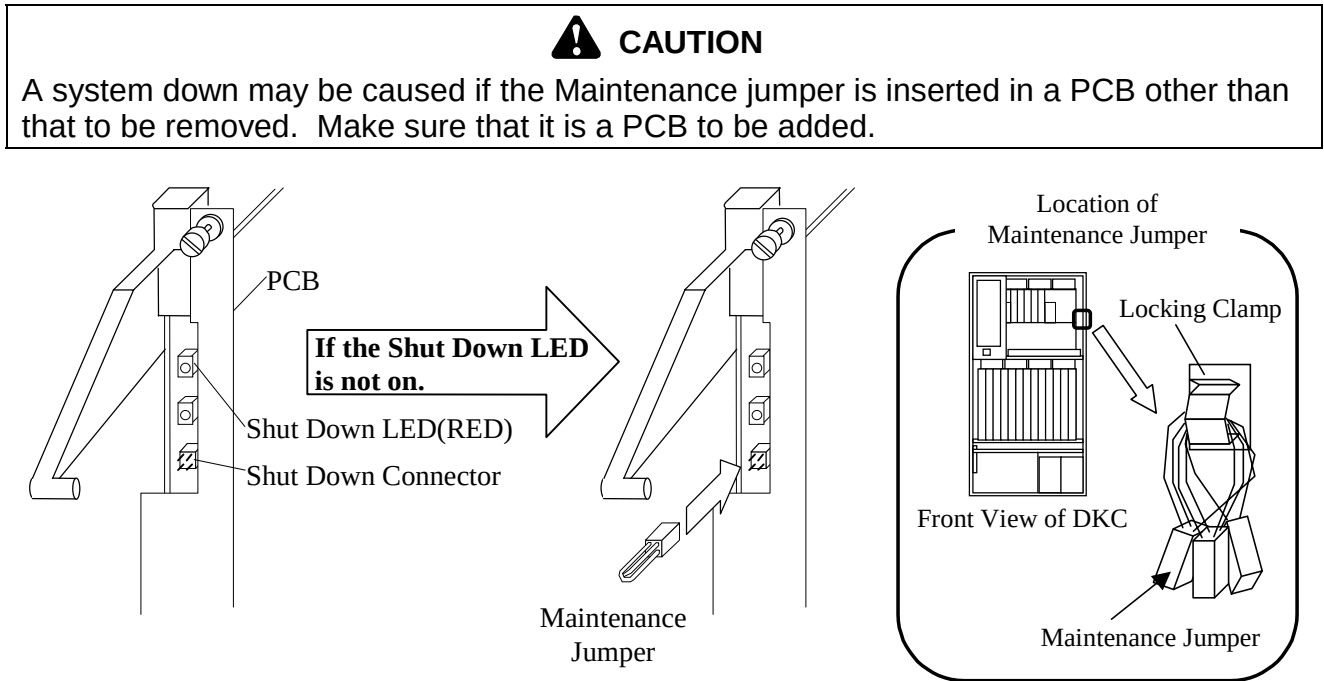

Fig. 3.9.2-8 Location of the Shut Down LED
- a. While referring to Fig. 3.9.2-8, Table 3.9.2-6 and Table 3.9.2-7, check the Shut Down LED on the Cache Memory PCB. Connect the Maintenance Jumper to the Shut Down Connector if the Shut Down LED is not on. (This procedure [8-1. a.] is not valid for a New Installation.)